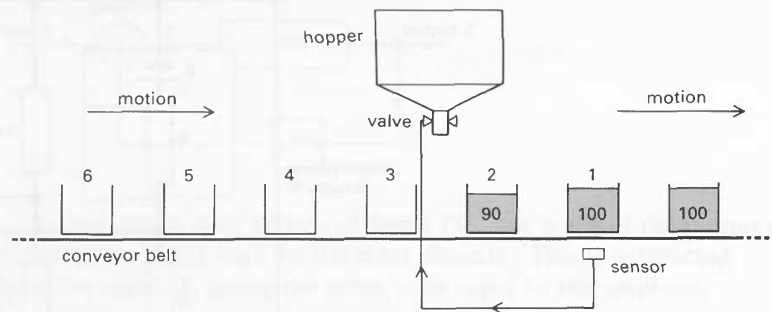

Figure I91
- 49(P)** In a factory, jars on a conveyor belt are each supposed to be filled with 100 g of powder. Each jar passes over a sensor (figure I91). If the mass is, for example, 1 g low, a correction is immediately made to the valve of the hopper causing it to deliver 1 g more; other corrections are proportional.